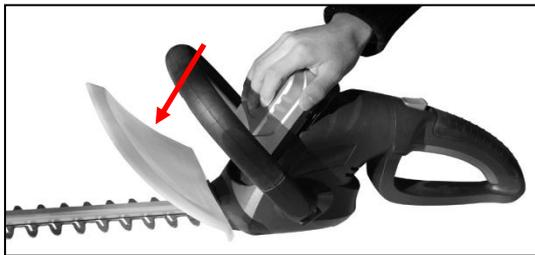

Fig. 8
Hold battery pack with one hand and insert the battery pack to the chute and slide the battery pack down as shown in Fig 8; with a “click” the battery pack will be fitted correctly. Make sure the Lock / Release button (5) for the battery pack is at the lock position and that the battery pack is engaged.